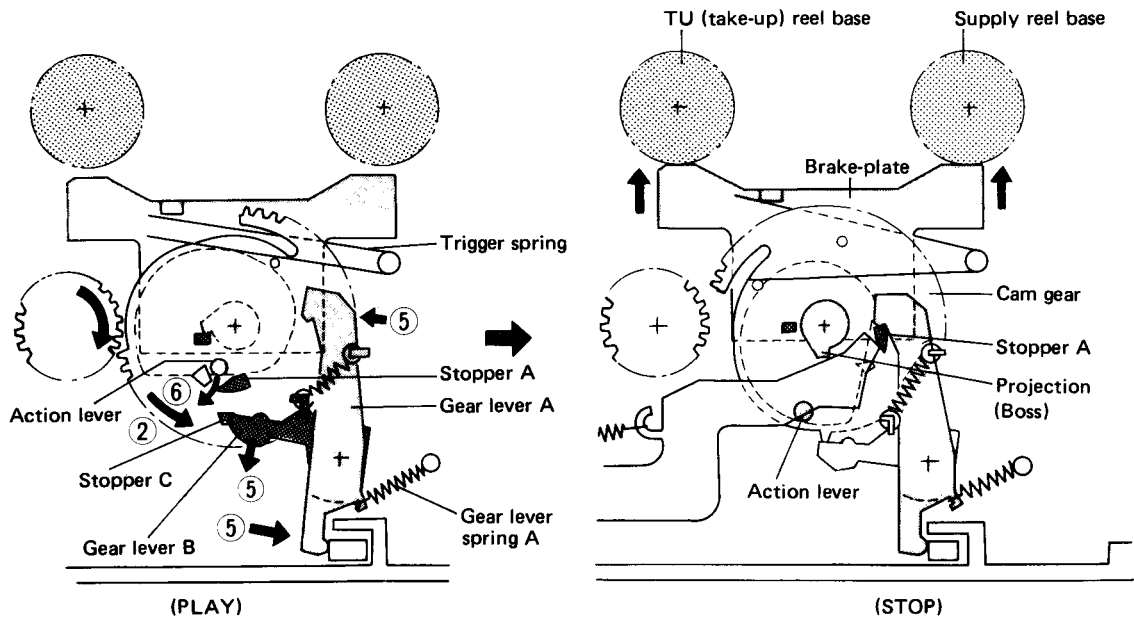

Fig. 13-4 PLAY → STOP operation
PLAY – STOP Operation (Fig. 13-4)
1. When the STOP button is pressed, the PLAY button lock is released, and the force of gear lever spring A returns gear lever A and B in the direction ⑤. This action separates cam gear stopper C from gear lever B.
2. As cam gear stopper C moves away from gear lever B, the compression force of the trigger spring rotates the cam gear in the direction ② until stopped by contact between cam gear stopper A and gear lever A. (See the right side of Fig. 13-4).
4. At the same time, the shape of the cam (machined on the upper surface of the cam gear) returns the action lever in the ⑥ direction, releasing the pressure contact the pinch roller and TU idler are placing on the reel base. The head base also returns to the STOP position, and the PLAY switch is thrown to the STOP side, completing entry into the STOP mode.